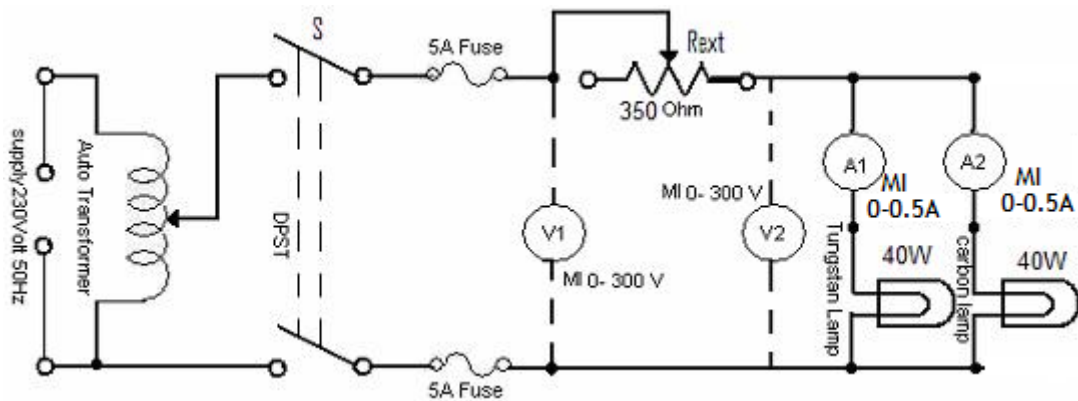

Fig 1: Circuit diagram for testing of Tungsten and Carbon filament Lamps
2. Set up the circuit as shown in Fig.1 with the lamps and instruments as indicated. Keep the switch S open.